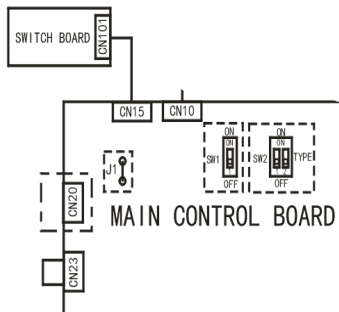

Fig. 25 — Main Control Board
- Connect the wire from the Main Control board. see Fig. 25 — on page 22.
1. Locate the net module connected to CN20 on the Main Control Board (see Fig. 25).